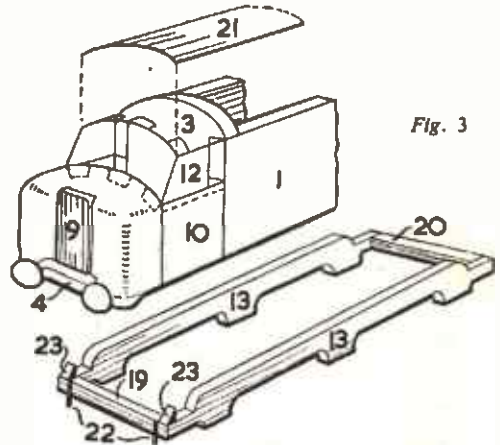

Fig. 3
complete with wheels. The axles (11) are glued in pairs as shown, and then glued on the underside of the floor in the positions shown by the dotted lines on the design sheet. The wheels, complete with flanges, are now secured in position with fret pins. The bogie frames are made up as shown in Fig. 3, and glued to the underside of the main frame.
Pieces 12 (the cab windows) can next be added (see Fig. 3). The tabs are bent